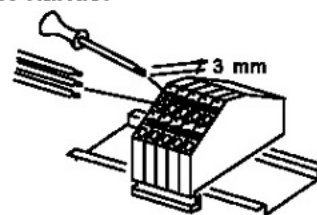

Figure 2: Connecting block
- Connect the main power supply to the connecting block in the switch box, according to the figures 2 and 3;